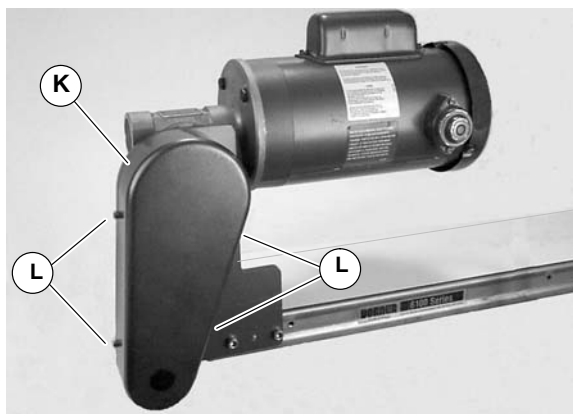

Figure 17
1. Remove four (4) screws (L of Figure 17) and remove cover (K).
4. Install cover (K of Figure 17) with four (4) screws (L). Tighten to 35 in-lb (4 N-m).
6. Install cover (K of Figure 17) with four (4) screws (L). Tighten to 35 in-lb (4 N-m).